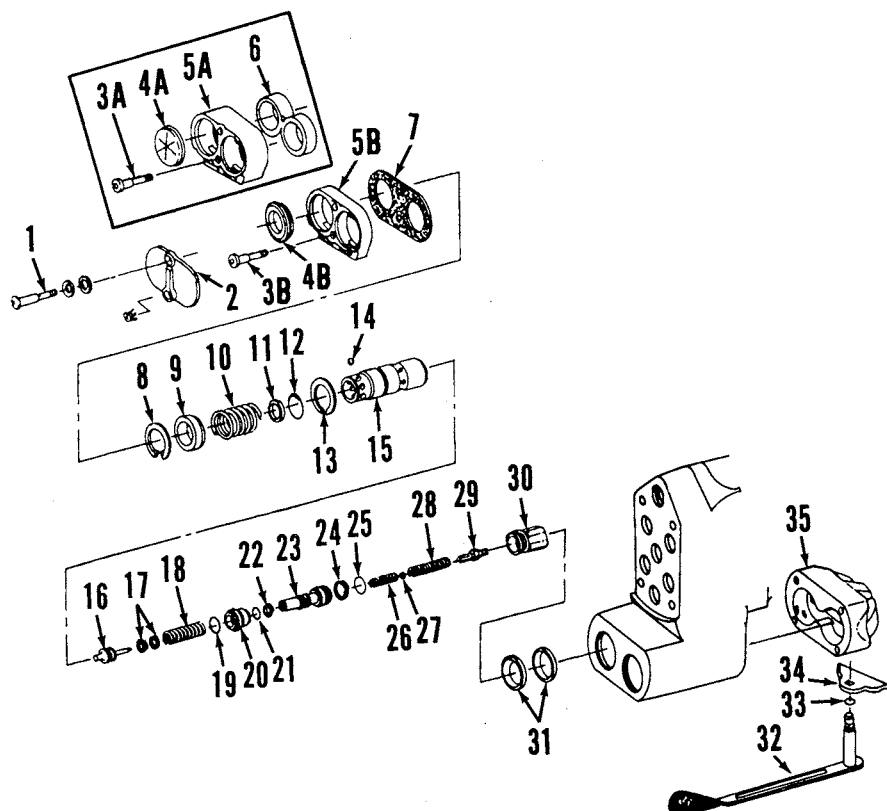

Fig. 268—Exploded view of breakaway SCV coupler assembly. Items in inset are used on early style couplers.
246. BREAKAWAY COUPLER. To remove the couplers, remove dust cover (2—Fig. 268) and front cover assembly (5A or 5B). Remove rear cover (35) with release lever (32) and cam (34). Depress coupler (15) to relieve spring pressure, then remove retain-